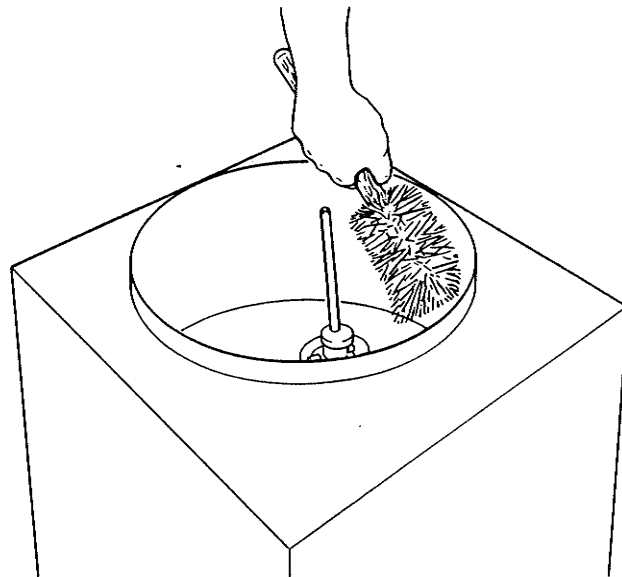

Figure 12. Sanitizing Hopper
- D. Clean side walls of hopper, mix inlet regulator and underside of hopper cover using a sanitized soft bristle brush dipped in the sanitizing solution (Fig. 12).